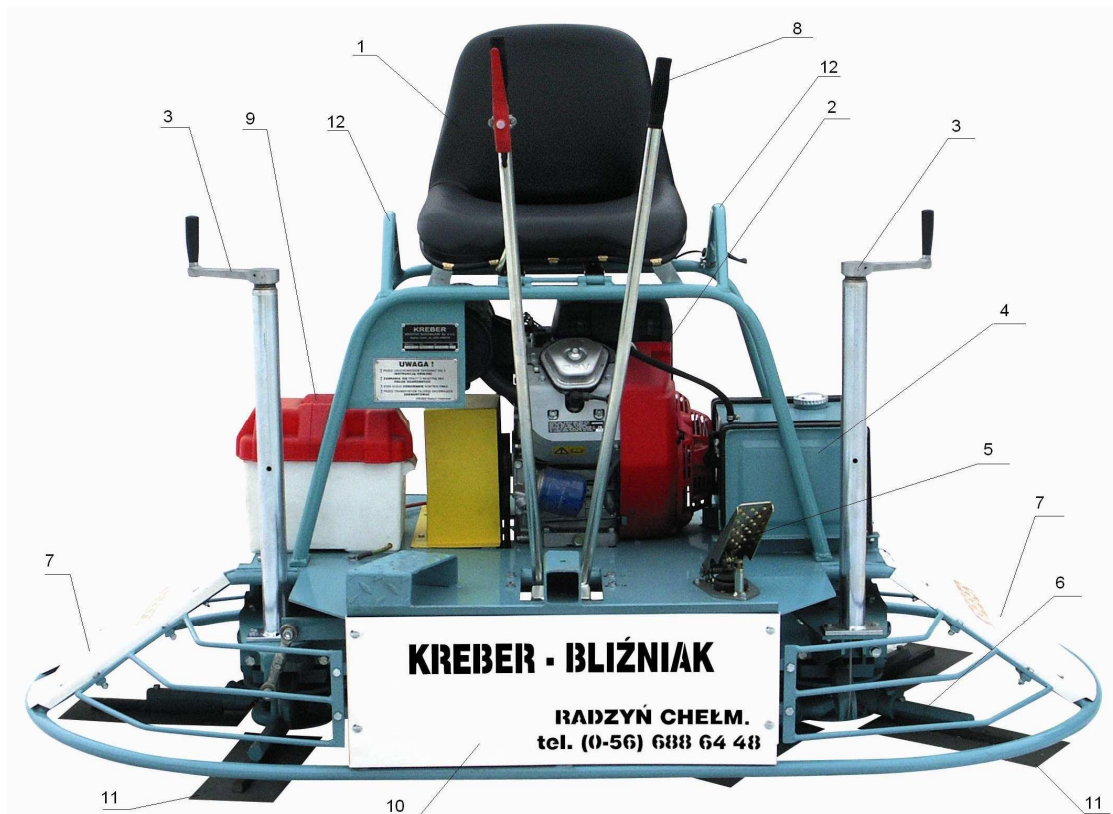
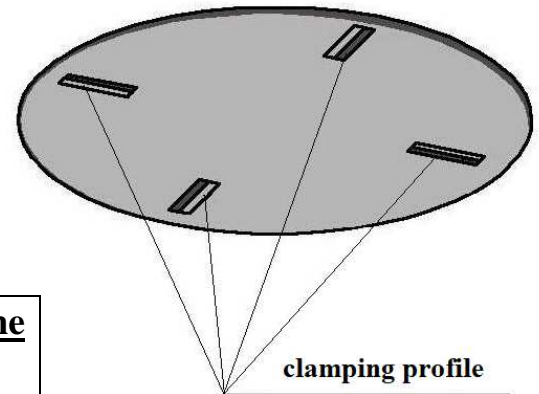

Fig. 1
Fig. 4
Figure 4 schematically illustrates trowel operation.
This operation is performed by means of the adjustment knob (item 3 fig. 1). The angle of the blades depends on the grade and degree of hardness of the floor.
The machine should be placed on the plates (plate) in such a way that the blades are under the clamping profile (Fig. 4) Then set the angle of the blades according to the height of the clamping profile with the adjustment knob (Fig. 1, item 3).